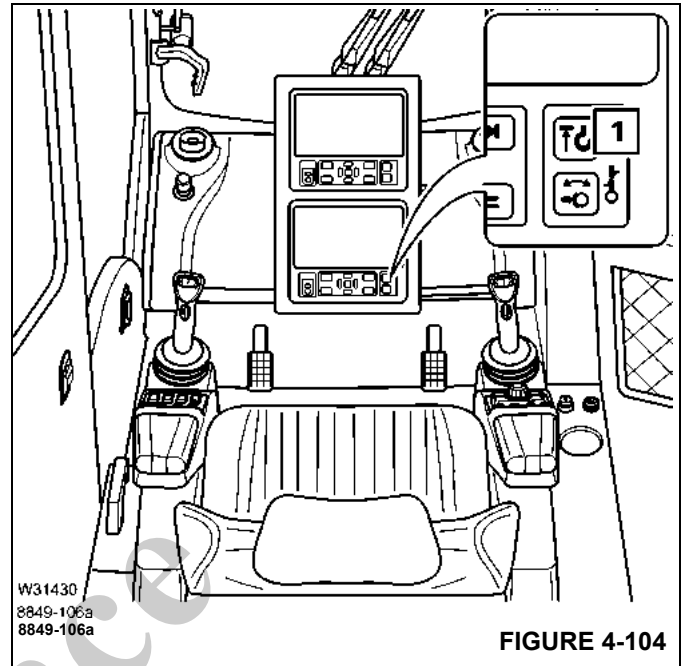

FIGURE 4-104
If the anti-two block switch is triggered now, the crane movement is stopped once and the lamp (1), (Figure 4-104) flashes.